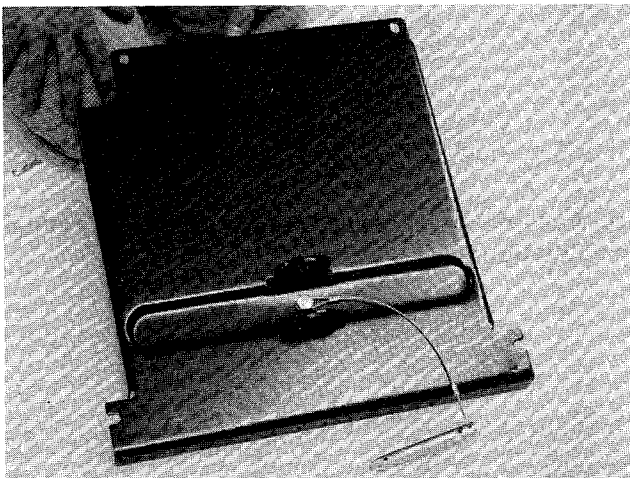

FIGURE 22.
2. Place the hitch bracket through the hitch plate. Secure with hex bolt (O), lock washers (P) and hex nut (Q).
Attach the looped end of hitch pin (S) under head of bolt. See figure 22.